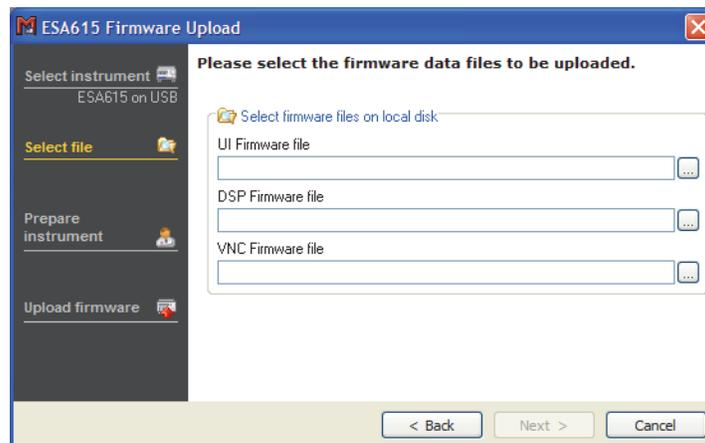

Figure 6-24. Firmware Upload Window
2. Click the **Update Firmware** tab to show the window in Figure 6-24.